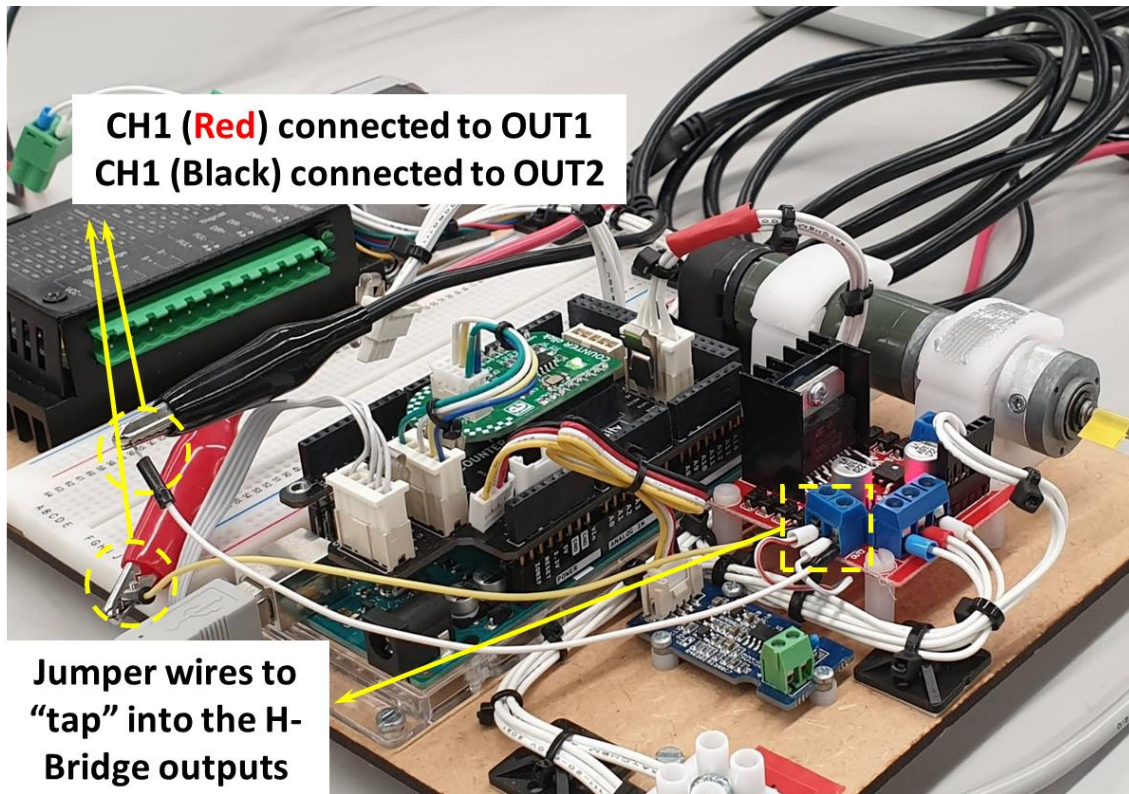

Figure 19 Hardware setup for Lab-1 Exercise-2 (after probing)
19. **Get a demonstrator to check your wiring! The final setup should look like Figure 19. (If you do not understand how to operate the oscilloscope, ask a demonstrator).**